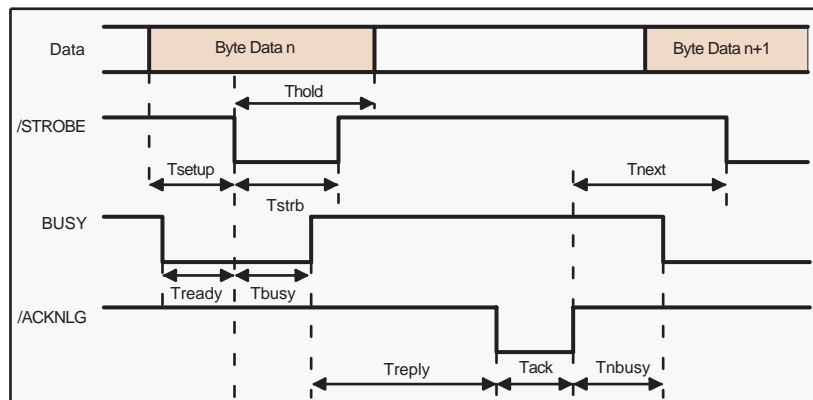

Figure 1-9. Data Transmission Timing for the Forward Channel
- ❑ See Figure 1-9 for the transmission timing of each signal.